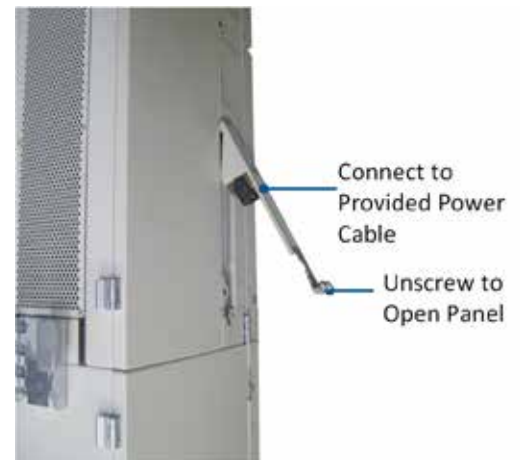

Figure 14. GX AC Model Power Connector
- Step 1.** Unscrew the two screws of the side panel and open to access the power connector. See Figure 14.